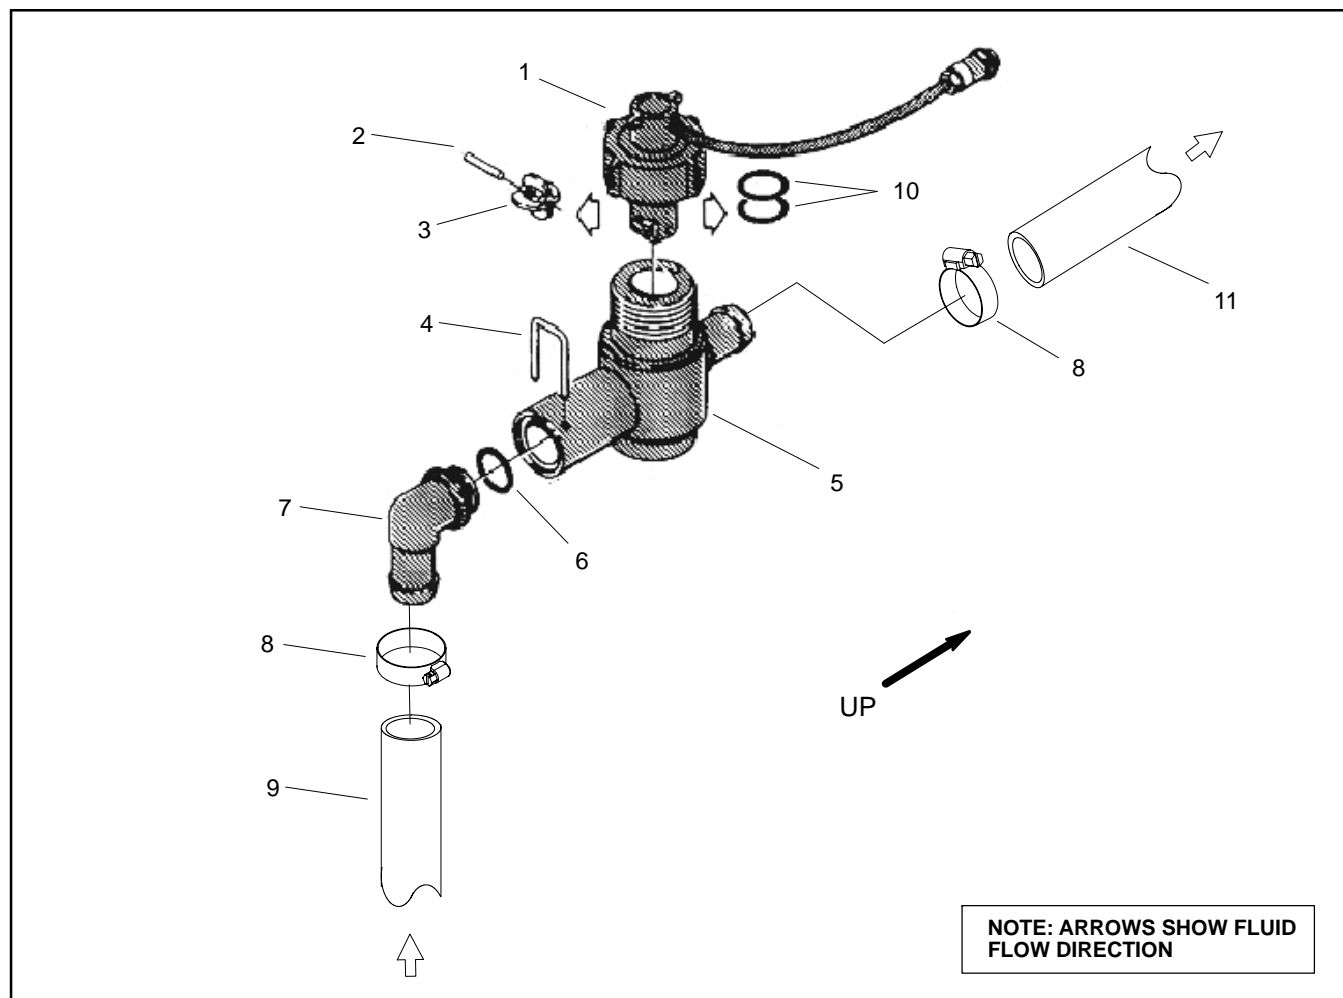

Figure 27
Removal and Inspection (Fig. 27)
7. If necessary, remove flowmeter housing using Figures 27 and 29 as guides (also see Spray Control (Multi Pro 1200) in this section). Discard all removed O-rings and gaskets.
Assembly (Fig. 27)
1. Assemble flowmeter using Figures 27 and 29 as guides. Replace all removed O-rings and gaskets.